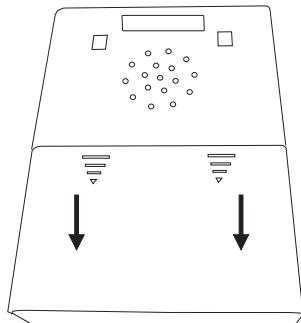

Figure 5: Battery compartment of the »signolux« receiver
- a) At the rear side there is a battery compartment the cover of which can carefully be pushed downwards so that the compartment opens (fig. 5).